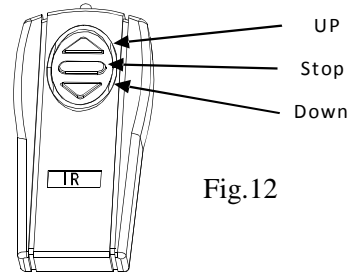

Fig.12
**3. IR Remote Control (Item A, Fig. 12):** The Infrared functions by direct line of sight contact with a beam range of 30 feet.